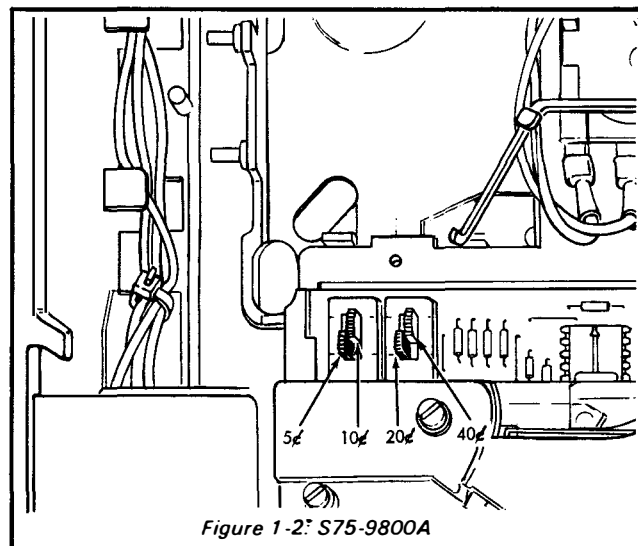

Figure 1-2: S75-9800A
3. The S75-9800A has four price select slide switches (2 black and 2 white) located on the upper portion of the printed circuit board. These switches are ON when in the up position. (Refer to figure 1-2)